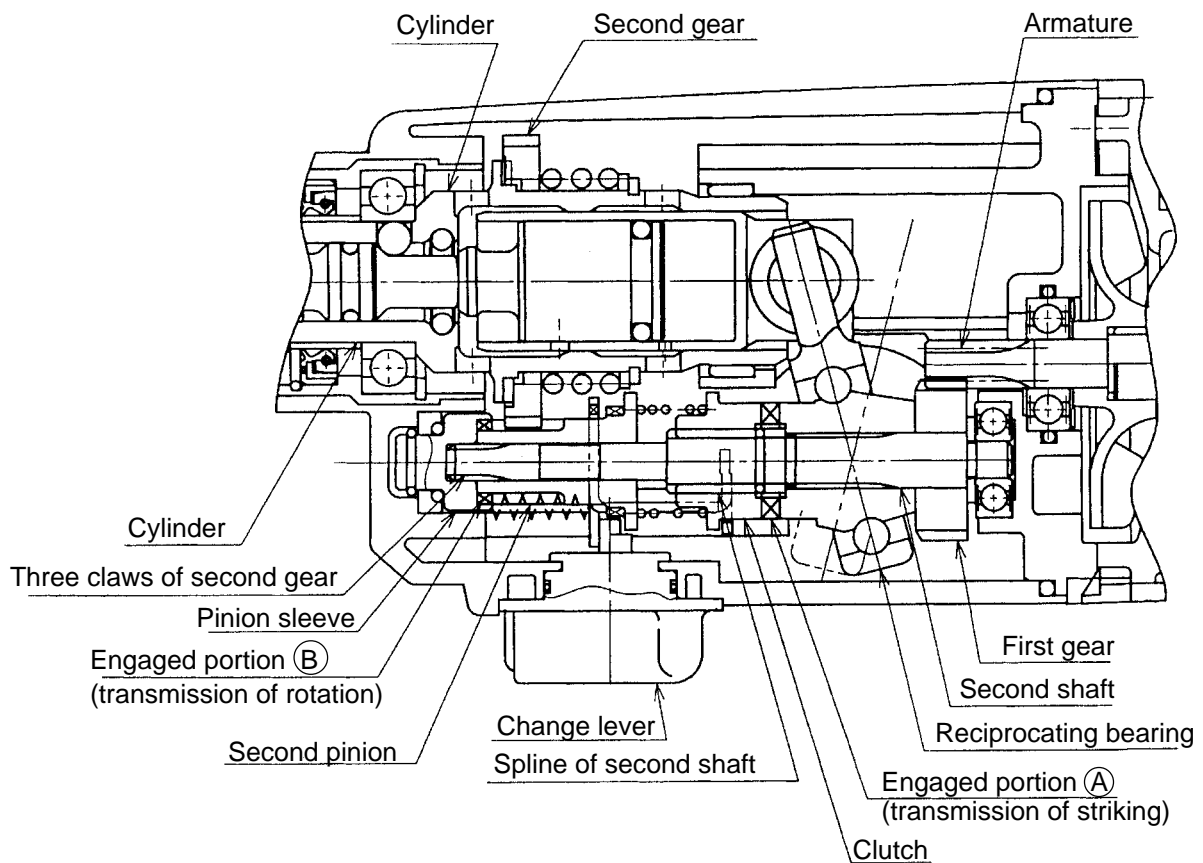

Fig. 5
(1) Rotation and striking (Fig. 5)